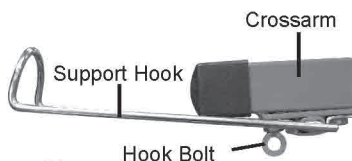

Figure 11
2. Rotate and secure the Support Hooks to their open position. (See Figure 11.)